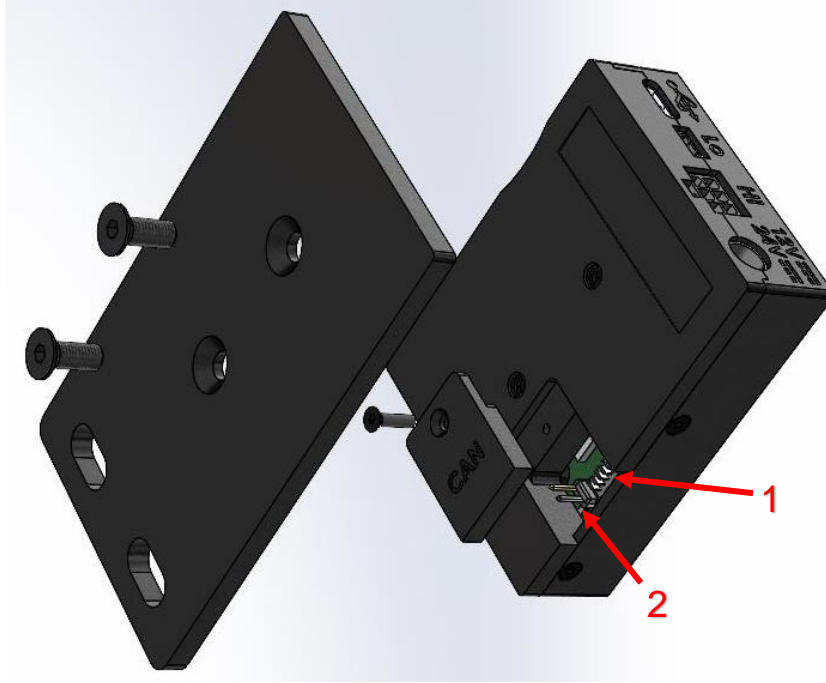

Figure 11. Access to CAN bus connector
1. Connect the thermocontroller (see **Figure 11**) to HP15, HP30 oven via Picoblade connector (3) or HP200 oven via Micro-Fit connector (2).
2. Connect the DC 5.5/2.5mm plug of the power supply into the power jack (1) on the thermocontroller (see **Figure 11**).
3. Turn-on or turn-off the thermocontroller by long-pressing (~3s) the navigation button (4) (see **Figure 11**).
4. When device is turned on oven temperature is shown on the OLED display. Use navigation button (4) in up/down direction to adjust the temperature (see **Figure 11**).
5. When device is turned on, pressing (~1s) the navigation button will bring up a temperature ramp adjustment screen. Use navigation button (4) in up/down direction to adjust the temperature ramp speed.